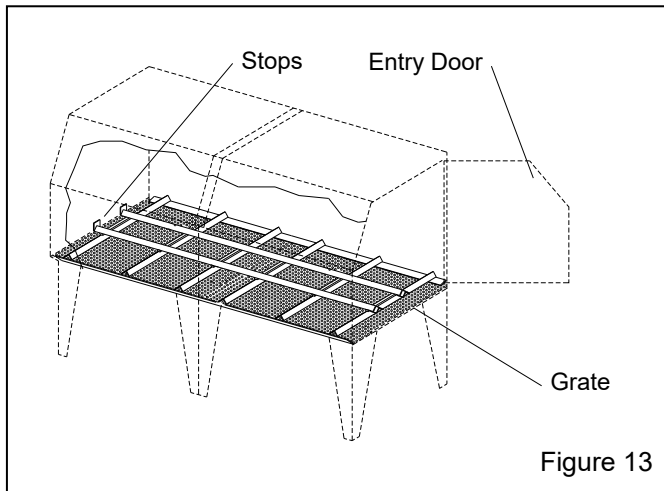

Figure 13
3.4.2 Place the inside track in the cabinet over the existing grate as shown in Figure 13.